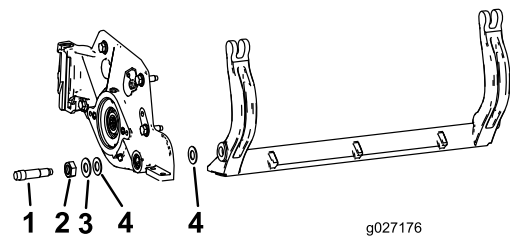

Figure 25
Account for 2 nylon washers and 1 steel washer on each end of the bedbar (Figure 25).
3. Position a nylon washer on each side of the side-plate boss. Place a steel washer outside each of the nylon washers (Figure 25).